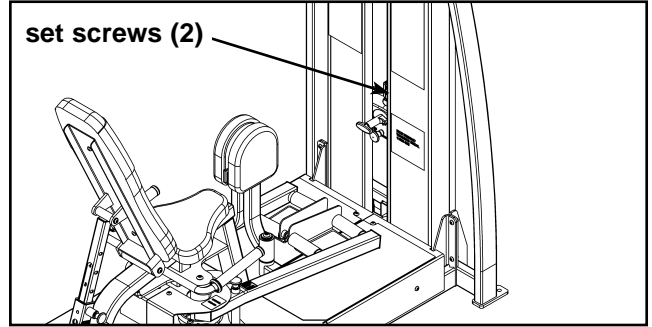

Figure 1
- B. Disconnect weight stack belt (by loosening the two set screws on the belt clamp with a 7/32" Allen wrench). See Figure 1.